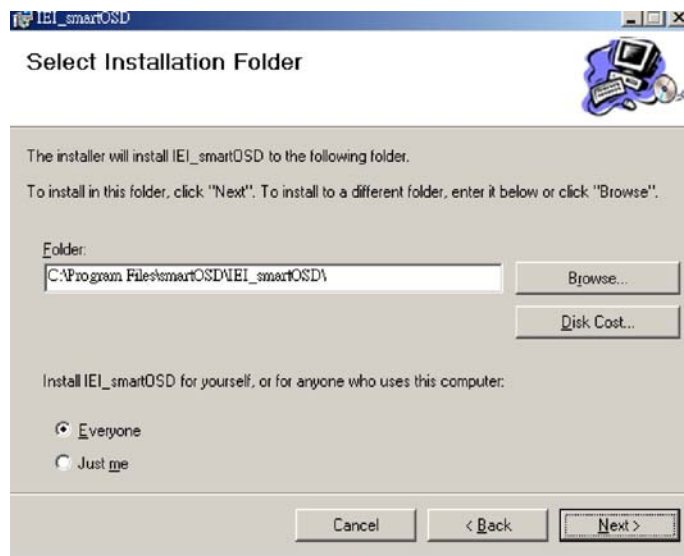

Figure C-3: smartOSD Folder Select Screen
Step 5: The Folder Select screen in **Figure C-3** appears.
Step 6: Select the installation folder in **Figure C-3** shown above.